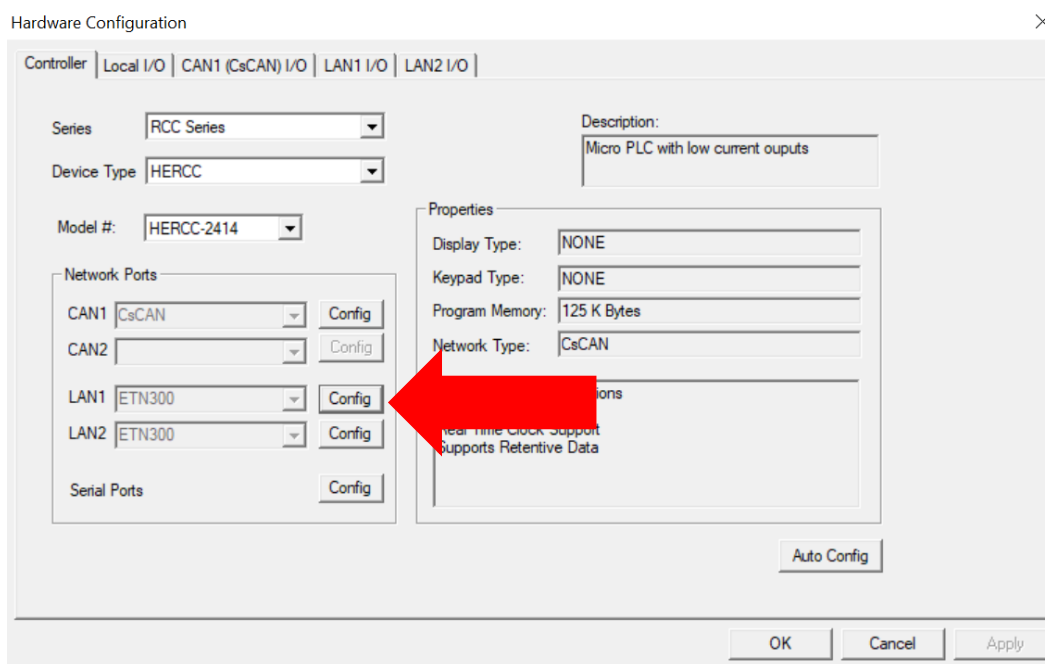

Figure 11.1 - Hardware Configuration Dialog
1. On the main Cscape screen, select the **Controller** menu and its **Hardware Configure** sub-menu to open the Hardware Configuration dialog (Figure 11.1).